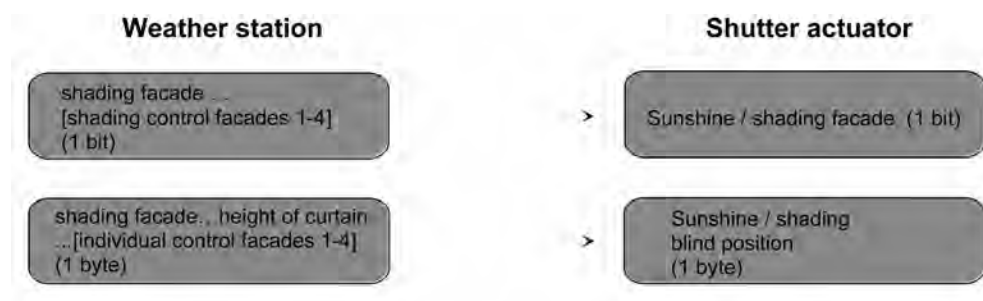

Figure 30: Programming of the communication objects for application example V
- fixed slat position setting.(figure 30)